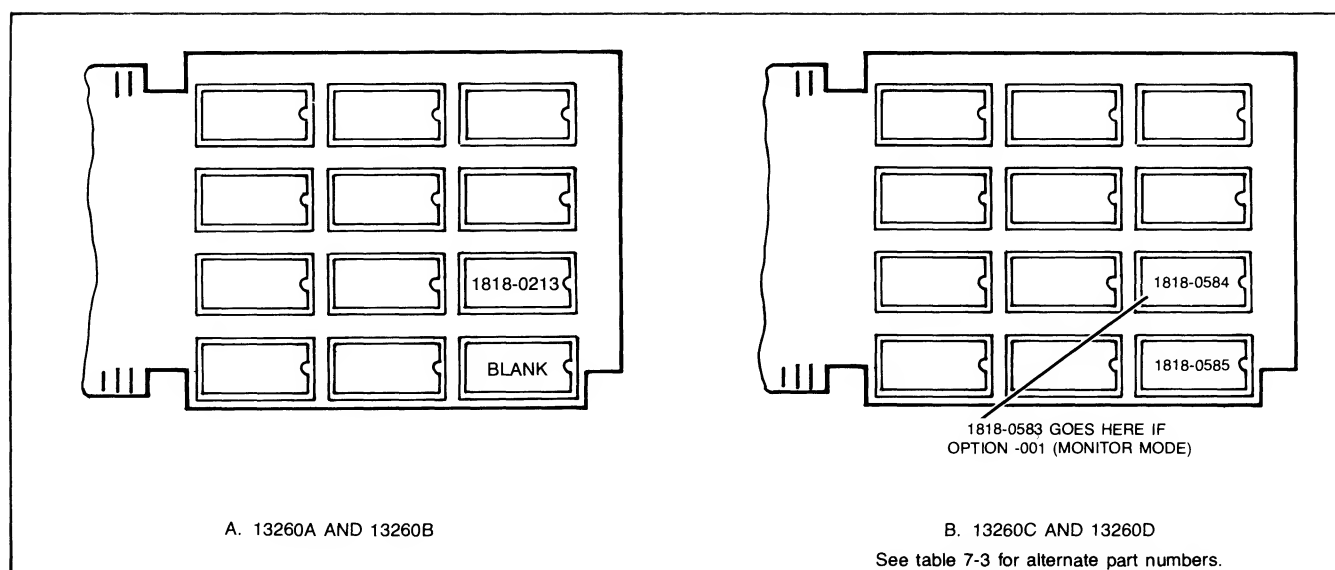

Figure 7-13. Control Memory PCA Data Comm Firmware IC Locations
7. () Remove IC's, if present, from DATA COMM sockets 20 and 22 of Control Memory PCA (see figure 7-13).
9. () Carefully insert ROM(s) contained in accessory package into DATA COMM socket(s) so that ROM pin 1 is at upper right corner of socket (see figure 7-13).